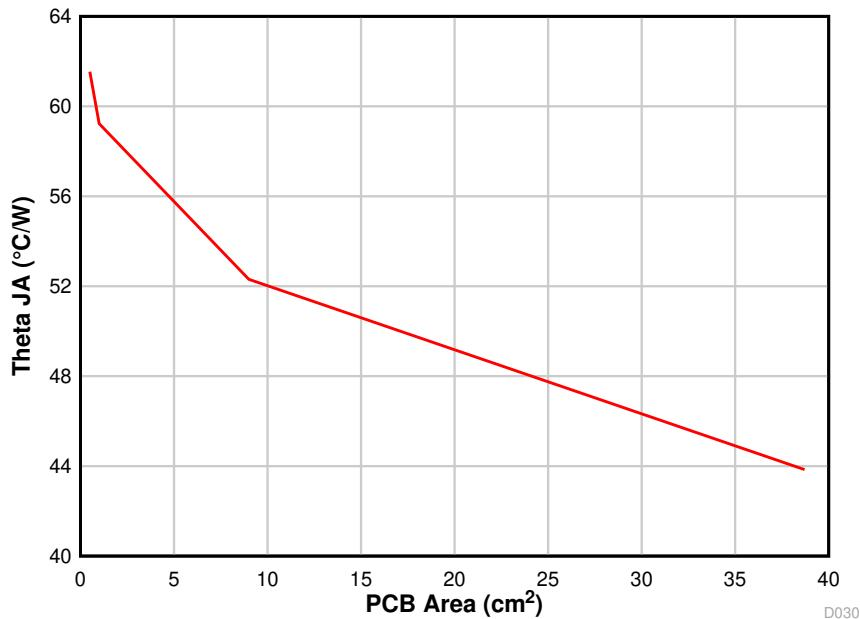

图 10-3. θ_{JA} versus PCB Area
The amount of PCB copper affects the thermal performance of the device. 图 10-3 shows the effects of copper area on the junction-to-ambient thermal resistance ($R_{\theta JA}$) of the TPSM265R1. The junction-to-ambient thermal resistance is plotted for a 4-layer PCB with an area from 0.5 cm^2 to 39 cm^2 .
3. Reference 图 10-3 to determine the minimum required PCB area for the application conditions.